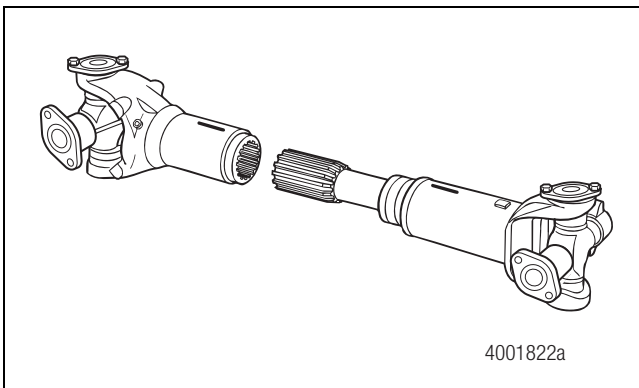

Figure 5.5
3. Pull the slip yoke and slip shaft sections apart. Figure 5.5.